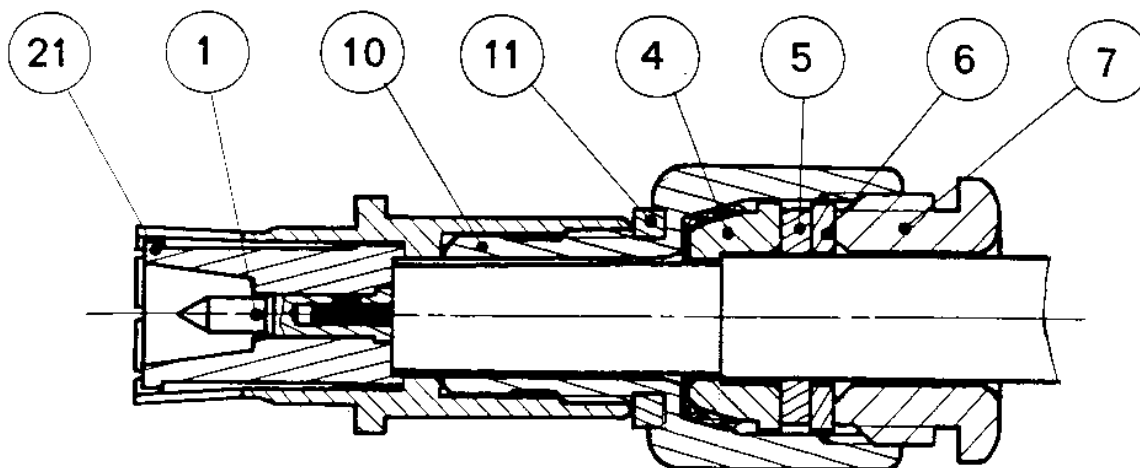

Figure 6
- 6) Solder inner contact (1) on inner conductor, see Figure 6.
- 8) Tighten nut (7) (5,42 Nm pound torque).